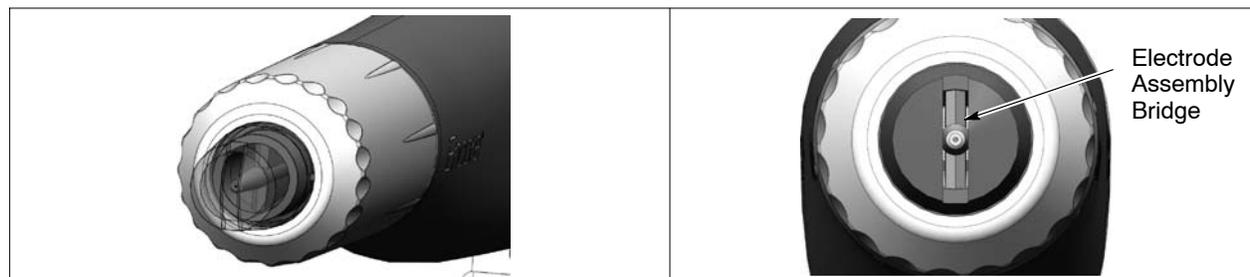

Figure 4-5 Correct Nozzle Orientation
4. See Figure 4-5. Install a new nozzle on the electrode assembly. The nozzle is keyed to the electrode assembly. Do not bend the antenna wire.